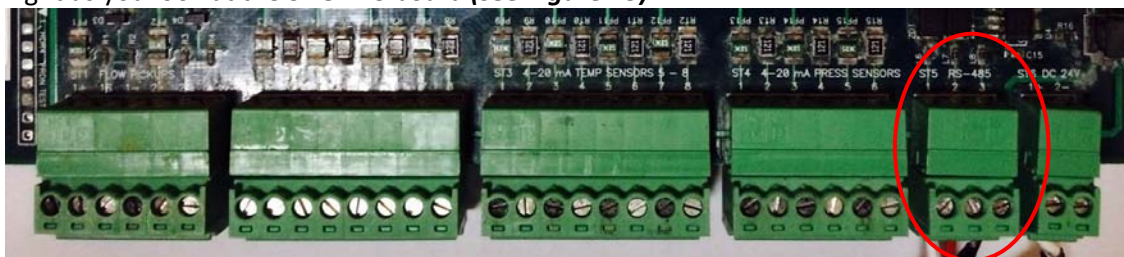

Figure 13: SAGE BS Board Connection
14. If the data communication cable had to be disconnected from the SAGE BS panel, feed the cable back through the existing hole and cord grip and connect to the SAGE BS board ST5 connector in the order of white, red, black from left to right as you look at the SAGE BS board (*see Figure 13*)